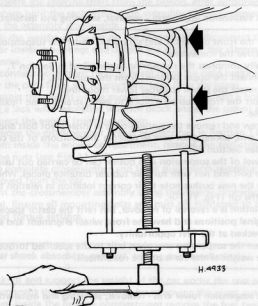

Fig. 11.6. Compressing a front spring (Sec. 7)
- 3 Using a suitable compressor, compress the coil spring onto the suspension lower arm (Fig. 11.6).